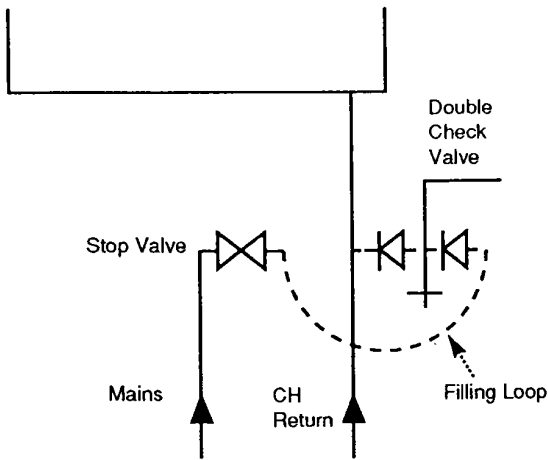

Fig. 5
4. The sealed primary circuits may be filled or replenished by means of a temporary connection (Filling Loop) between the circuit and a supply pipe, provided a WRC approved double check valve or some other no less effective backflow prevention device is permanently connected at the inlet to the circuit and the temporary connection (Filling Loop) is removed after use (Fig. 5).